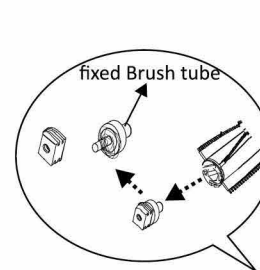

Fig. 4
- 4.As shown in fig. 4,take out the left side fixed accessory of the roller brush ,and clear any obstructions around it.